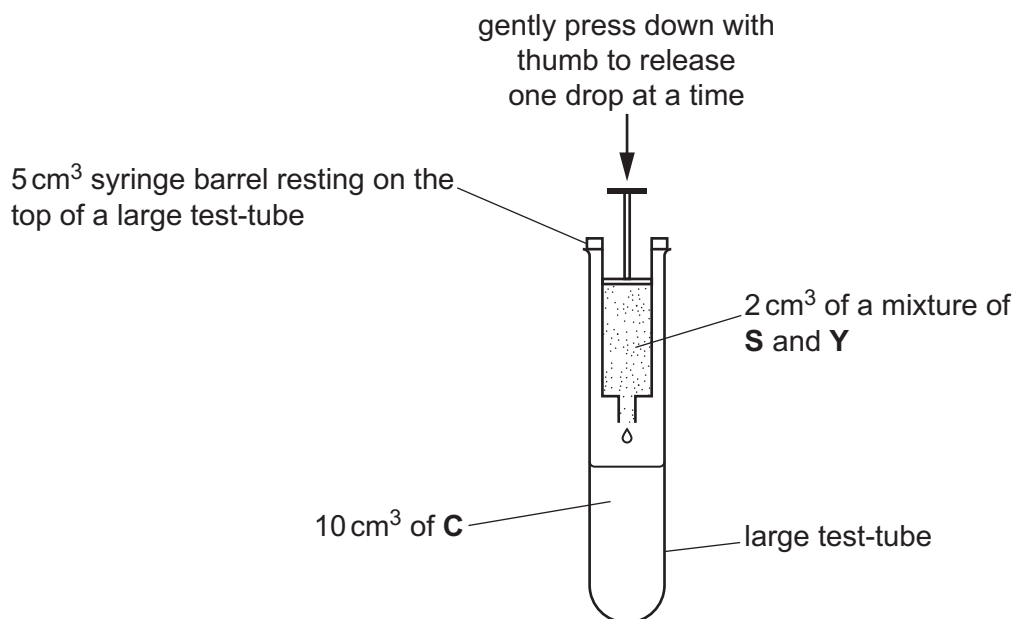

Fig. 1.1
step 5 Position the 5 cm³ syringe over the **large** test-tube containing **C** as shown in Fig. 1.1.